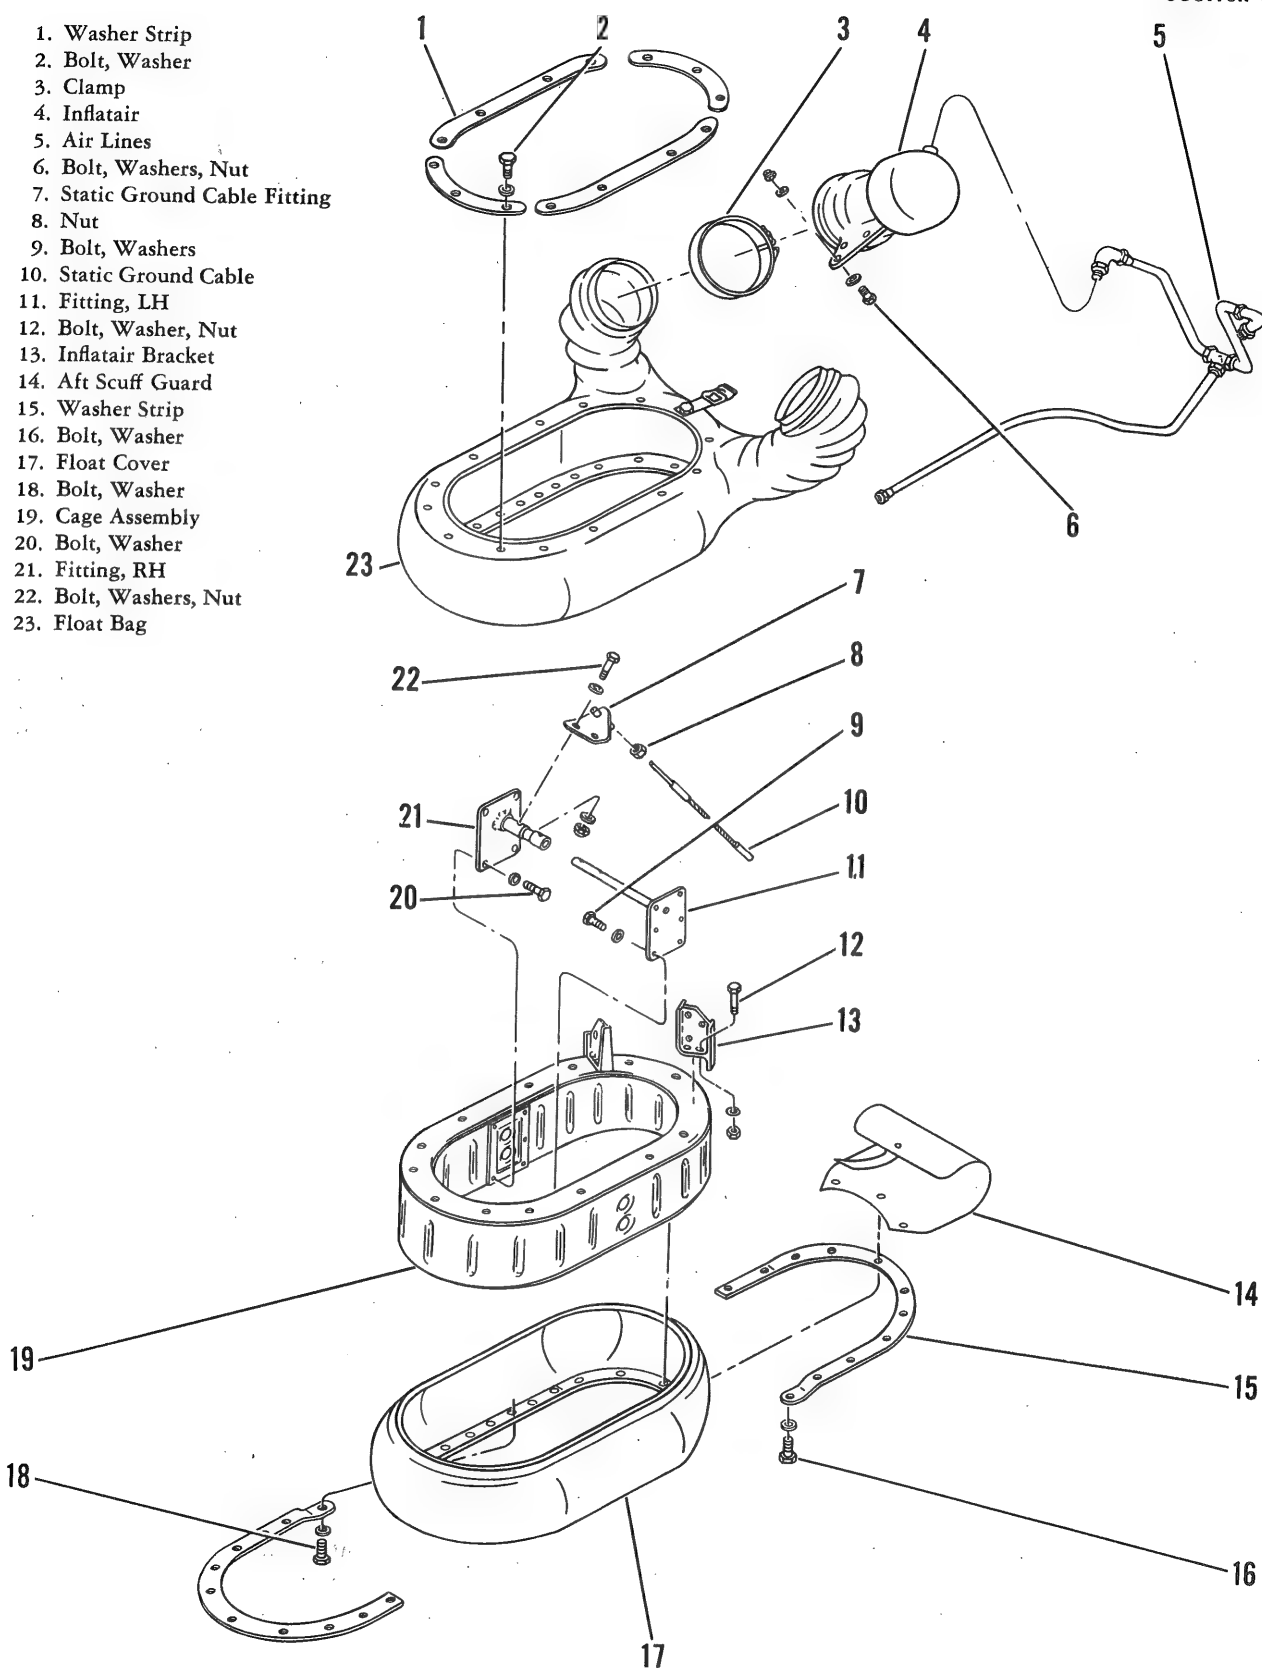

Figure 2-8. Tail Wheel Float Removal and Disassembly
2-41. DESCRIPTION. (See figure 2-8.) On helicopters serial No. 56-4316, 56-4320, 57-1684, and 57-1697, a donut-type emergency floating bag, divided into two airtight compartments, is installed on the tail wheel. The float is inflated by means of a compressed air bottle installed in the tail cone of the helicopter, venturi in the Inflatairs on the float, and the connecting air lines. When the EMER FLOT switch on either cyclic control stick is activated, the solenoid valve on the air bottle operates to discharge compressed air through the air lines to the Inflatairs. Venturi action within the Inflatairs induces atmospheric air to inflate the float.
Float bag (23, figure 2-8) must be deflated prior to removal from helicopter. To deflate bag, open drain valves on Inflatairs (4). Close drain valves when deflation is completed.
b. Disconnect air lines (5) to Inflatairs (4).
c. Remove bolts and washers (9 and 20) which secure cage assembly (19) to left- and right-hand fittings (11 and 21).
d. Remove float bag (23), Inflatairs (4), and cage assembly (19) as unit.
f. Remove bolts, washers, and nuts (22, figure 2-8) which pass through fittings, axle, and fork assembly. Remove right-hand fitting (21).
g. Remove nut (8) which secures static ground cable (10) to static ground cable fitting (7).
h. Remove left-hand fitting (11). Reinstall bolts, washers, and nuts (22) through axle and fork assembly.
k. Remove bolts, washers, and nuts (6, figure 2-8) which secure Inflatairs (4) to Inflatair brackets (13). Remove clamps (3) which secure Inflatairs (4) to sleeves of float bag (23), and remove Inflatairs (4).
l. Remove bolts and remove Inflatair brackets (13) from cage assembly (19).
m. Remove aft scuff guard (14). Remove bolts and washers (2, 16, and 18) and washer strips (1 and 15) which secure float bag (23) to cage assembly (19) and remove bag. Remove float cover (17).
a. Bolt Inflatair brackets (13, figure 2-8) to cage assembly (19).
- g. Slide wheel away from axle boss on fork assembly (51).
- h. Remove bolts, washers, and nuts (22, figure 2-8) which secure axle to fork assembly.
- i. Install left- and right-hand fittings (11 and 21) and static ground cable fitting (7) in fork assembly and axle. Align holes in fork, axle, and fittings and secure with bolts, washers, and nuts (22).
- j. Secure static ground cable (10) to static ground cable fitting (7) with nut (8).
- k. Support packed float assembly and install bolts and washers (9 and 20) which secure cage assembly (19) to static ground cable fitting (7) and left- and right-hand fittings (11 and 21).